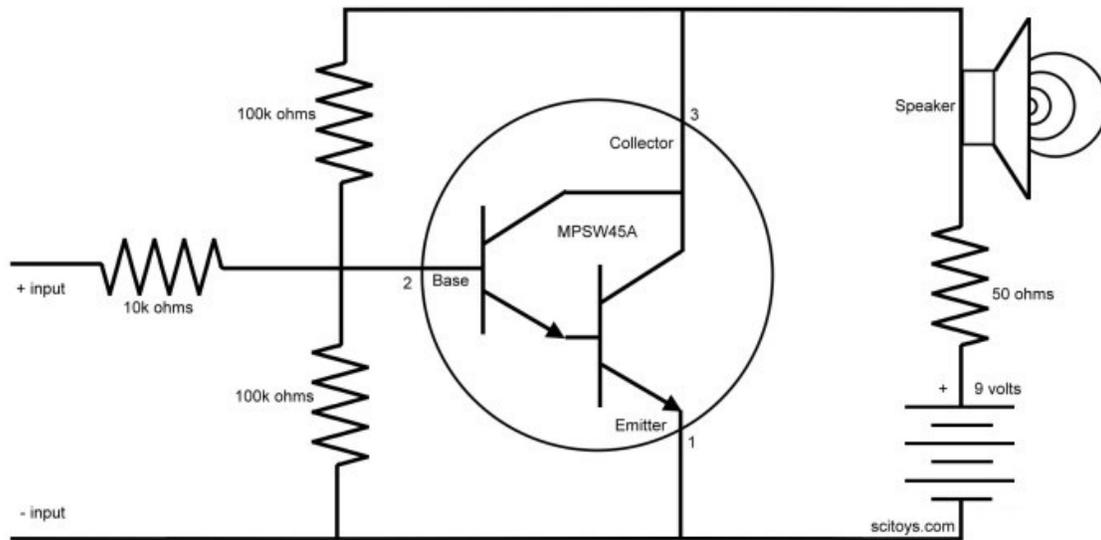

Fig. IX.3 Audio amplifier with low output impedance.
For your foam plate speaker, we will use the circuit shown in Fig. IX.3. We input the signal through a voltage divider consisting of two 100 kΩ resistors. Remember that transistors consist of pn junctions and need a certain minimum base voltage to turn on.
1. Connect up the amplifier circuit shown in Fig. IX.3. Use the resistor box to supply the 50 Ω. Connect your function generator to the input and display the output on CH1 of your scope. Use your DC power to bias the transistor (shown as a 9 V battery in Fig. IX.3). Slowly increase the voltage from 0 until the current drawn is around 0.1 A, or until you hear the tone in your earbud or speaker.